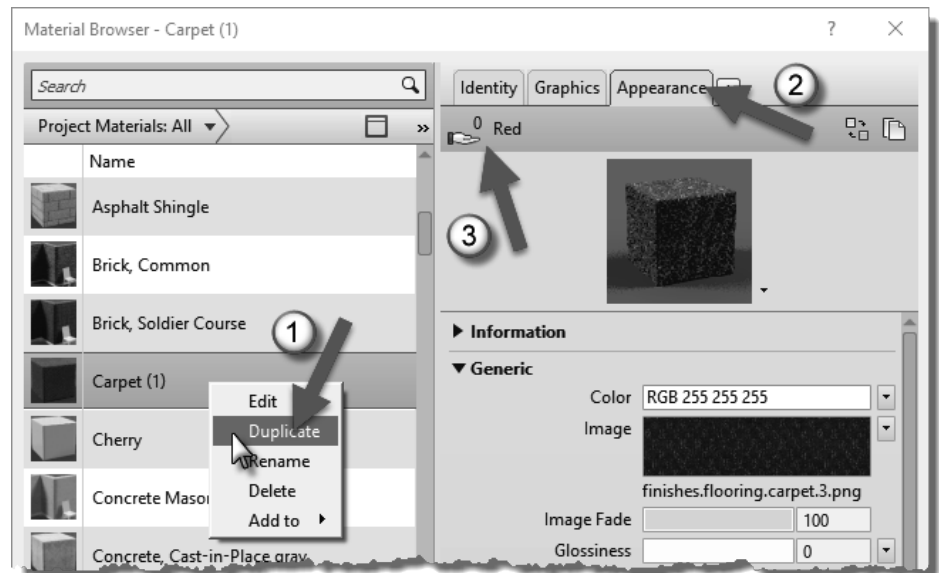

FIGURE 4-2.18 Duplicating a material
If you **Duplicate** a *Material* in your model, the **Appearance Asset** will be associated to the new *Material* AND the *Material* you copied it from! For example, in Figure 4-2.18, we will right-click on *Carpet* (1) and duplicate it. Before we duplicate it, notice the *Appearance Asset* named “RED” is not shared (arrow #3 Figure 4-2.18).